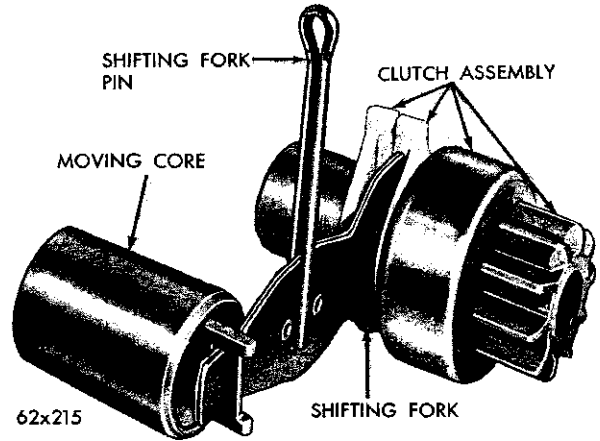

Fig. 37—Shifter Fork and Clutch Arrangement
(5) Complete the installation of the pinion shaft engaging the shifting fork with the clutch actuators. Figure 37 shows the correct relation of the parts at the assembly.